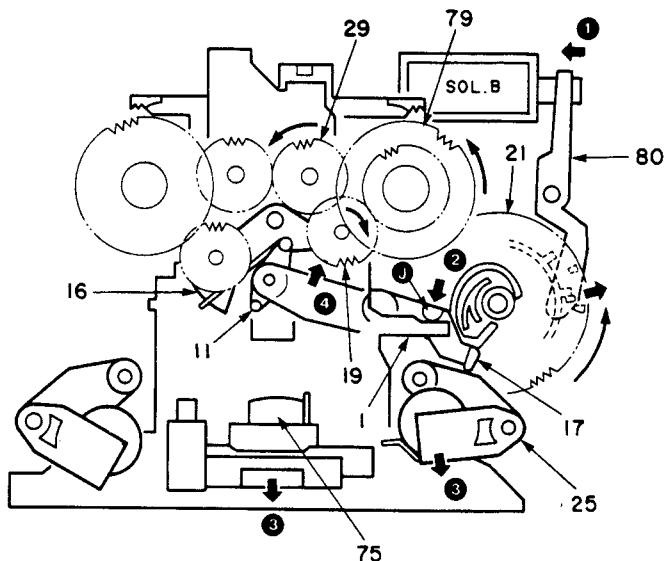
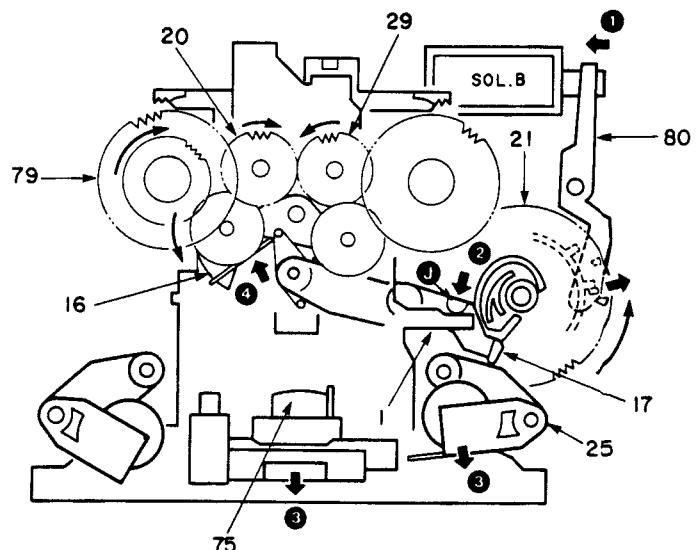

Fig. 10
Fig. 11
- 8-1 When the SOL.B is turned ON during play, the FR cam gear (21) is meshed with the flywheel gear, and the FR shirt arm (17) is pushed down in the direction of the arrow ② by the cam on the FR cam gear (21). At this time, the select arm (11) on the other end of the FR shift arm (17) is pushed up in the direction of the arrow ④, so that the cue operation takes place in the condition of Fig. 10 and the review operation takes place in the condition of Fig. 11.